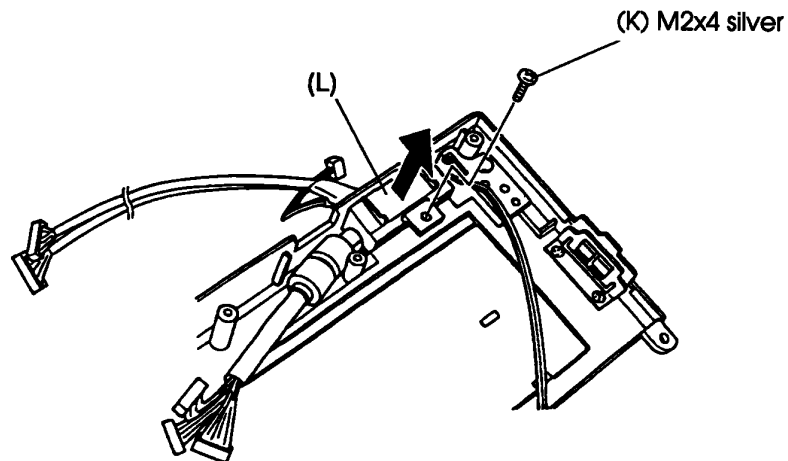

Figure 4-31 Removing the display cable cover
6. To remove the display cables (J), the top cover and LED holder must also be removed. If you need to remove the display cables, remove the top cover and LED holder as instructed in Sections 4.6 and 4.7.
7. Turn the top cover over and remove the (M2x4 silver) screw (K) securing the display cable cover (L) (Figure 4-31).